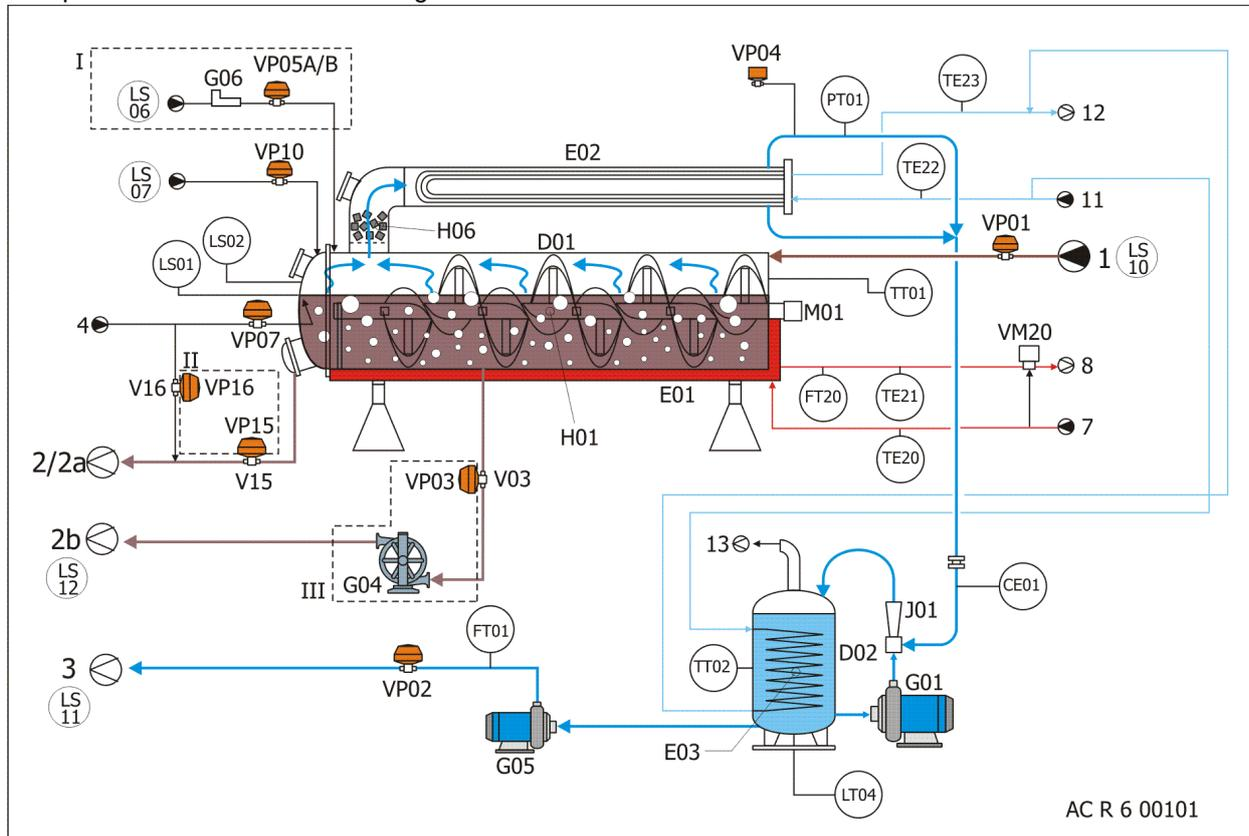

Figure 1
For component identification refer to figure 1.
*1) See the diagram in figure 1. *2) To be considered when ordering. *3) Can be combined with remote control contract EVA-Link. Refer to the specific Aquavista documentation. *4) It can be used for antifoam product. If the machine treats liquids that produce a lot of foam, use the specific optional OM AF F.